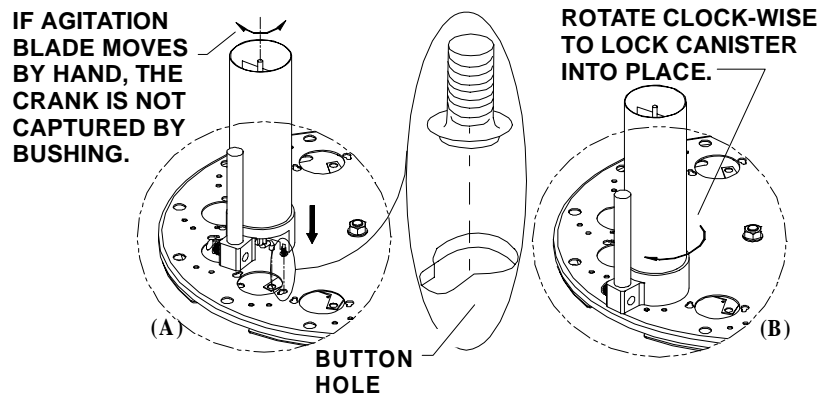

Figure 3 BUTTON HOLE MOUNTING
4. Align the screw heads with the button holes on the turntable for the front canister position and rotate the agitation blade until the agitation crank is aligned with the nylon bushing. (Figure 3 on page 7)
- Lower the canister into position, assuring that the agitation crank is captured by the nylon bushing and that the screw heads pass through the button holes, as shown in figure 3-A. Rotate canister clockwise locking it into place as shown in Figure 3-B.